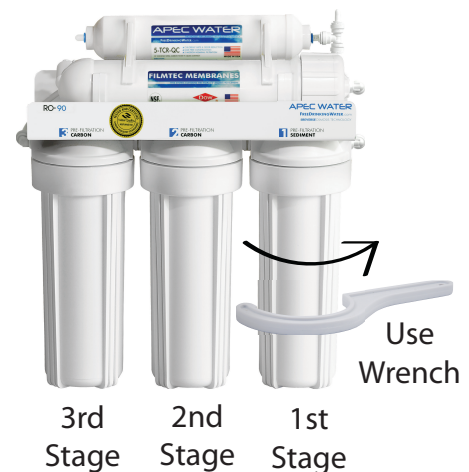

Fig. 4
3. **See Fig. 4** Use the wrench provided to completely tighten the housing starting from 1st-stage. Repeat this step for the 2nd stage housing in the middle, and for the 3rd stage housing on right.